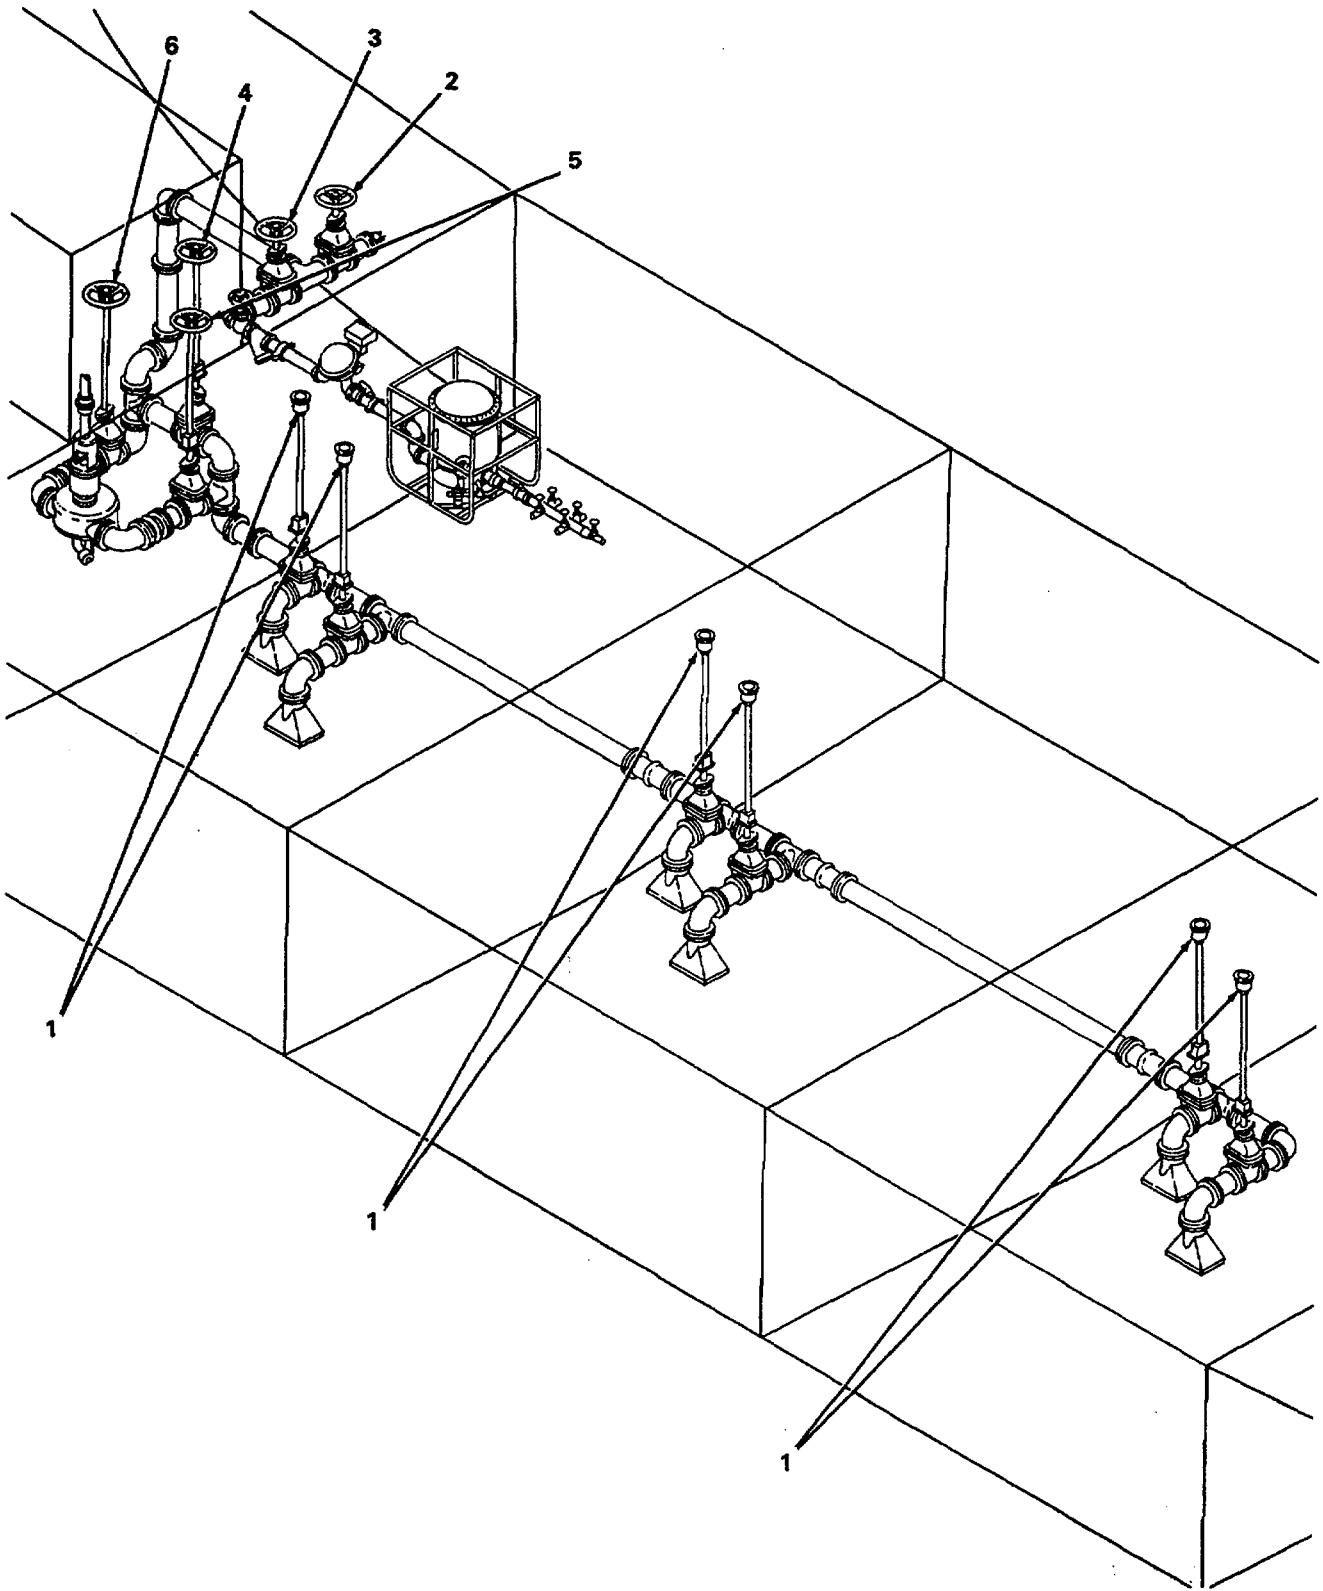

Figure 2-9. Valve Positions for Cargo Loading.
- (11) The following valve arrangement is for loading a full, unmixed cargo. Refer to figure 2-9.
- (a) Open all cargo tank valves (1).
- (b) Open riser filling inlet valve (2).
- (c) Close riser discharge valve (3).
- (d) Open bypass valve (4).
- (e) Close pump suction valve (5).
- (f) Close pump discharge valve (6).
- (12) Check with terminal representative and make certain representative is satisfied barge is ready to receive cargo.
- (13) Before taking on cargo, refer to paragraph 2-15,b.